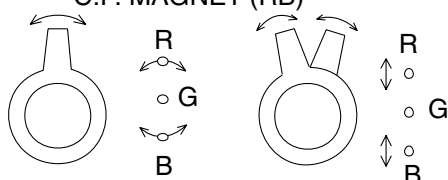

Fig. 9
2. Loosen the Ring Lock and align red with blue dots or crosshatch at the center of the screen by rotating (RB) C.P. Magnets. (See Fig. 9.)